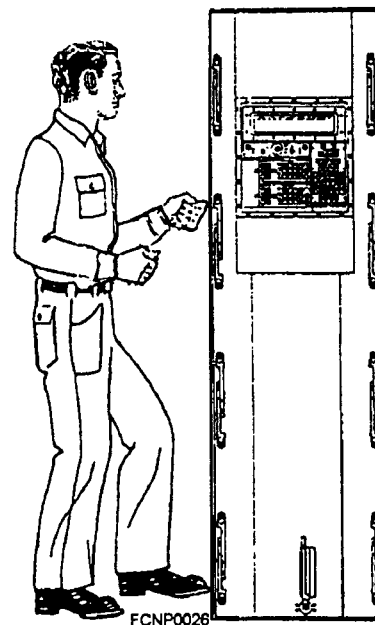

Figure 1-3.—Example of a mainframe computer.
complex, and as systems are updated, the programs must be revised to meet the new demands of the fleet. Operational programs for mainframe computers are supported by technical teams external to the command. Two examples of mainframes are the AN/UYK-7(V) and the AN/UYK-43(V) computers. They are general-purpose, militarized, digital data computers with large-scale memories, I/O capabilities, and multiprocessing capabilities that allow a number of CPUs to operate simultaneously in the same system. They interface with other mainframes and peripherals in the data processing subsystem, the display subsystem, and the communication subsystem. Training is obtained through formal C schools and is NEC producing. Figure 1-3 is an example of one of the Navy's mainframe computers.